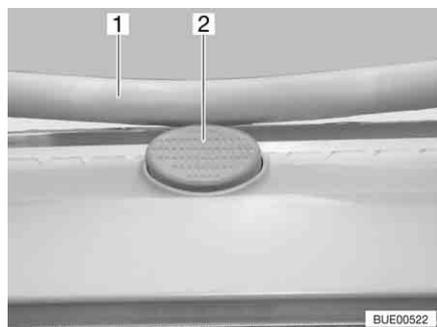

Fig. 67 Safety knob on the Heki skylight
- Press the safety knob (Fig. 67,2) and pull the bar (Fig. 67,1) down with both hands.
- Push the bar upwards with both hands until it is above the safety knob (Fig. 67,2).